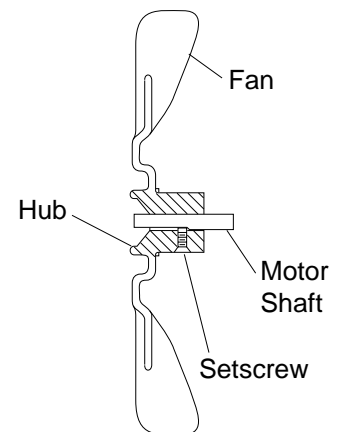

Figure 10 - Fan Cross Section
8. Replace fan on motor shaft. Make sure set screw is touching back of flat surface on motor shaft (see Figure 10).